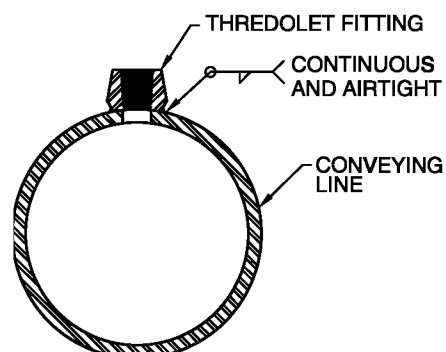

Fig. 5
4. To install Thredolet fitting, if applicable, refer to Fig. 5 and the following installation instructions: